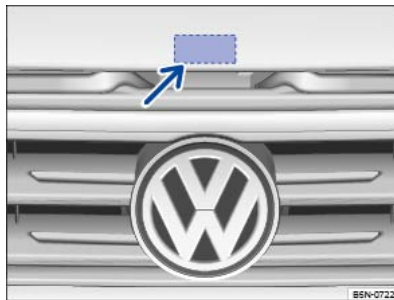

Fig. 224 Above the radiator grille: bonnet control lever.
- Lift the bonnet at the opening lever ⇒ Fig. 224 (arrow) and open fully. The bonnet is held in the open position by the gas strut.